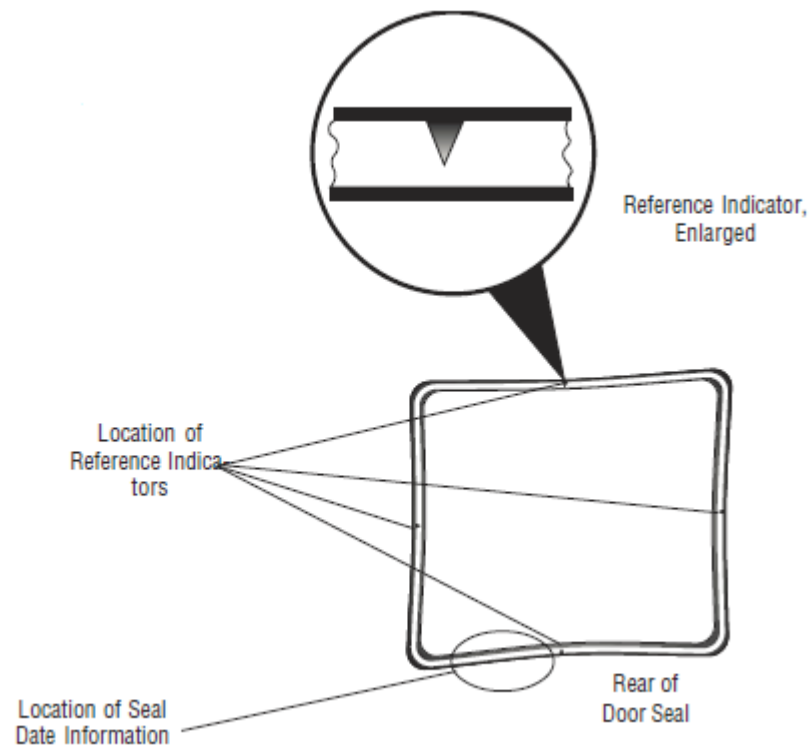

Figure 3-9. Location of Seal Date Information and Reference Indicators
- a. Ensure date information molded into rear of seal (refer to Figure 3-9) is at the bottom of the groove.
- b. Reference indicators are located inside the rear groove of door seal, at the middle of each side (refer to Figure 3-9).